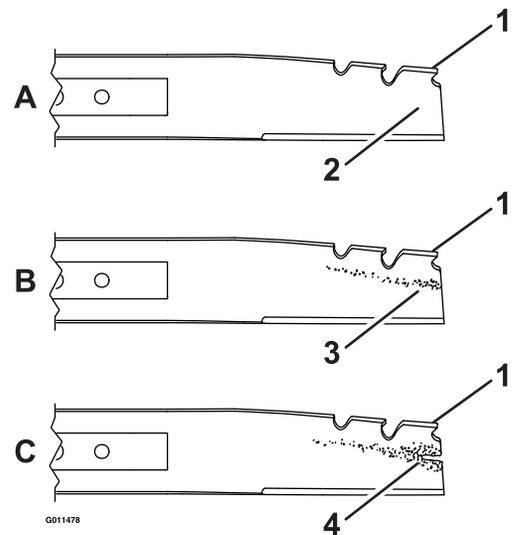

Figure 21
- Inspect the blades for sharpness and wear, especially where the flat and the curved parts meet (see Figure 21). Because sand and abrasive material can wear away the metal that connects the flat and curved parts of the blade, check the blade before using the lawn mower. If you notice a slot or wear (Figure 21B and Figure 21C), replace the blade.